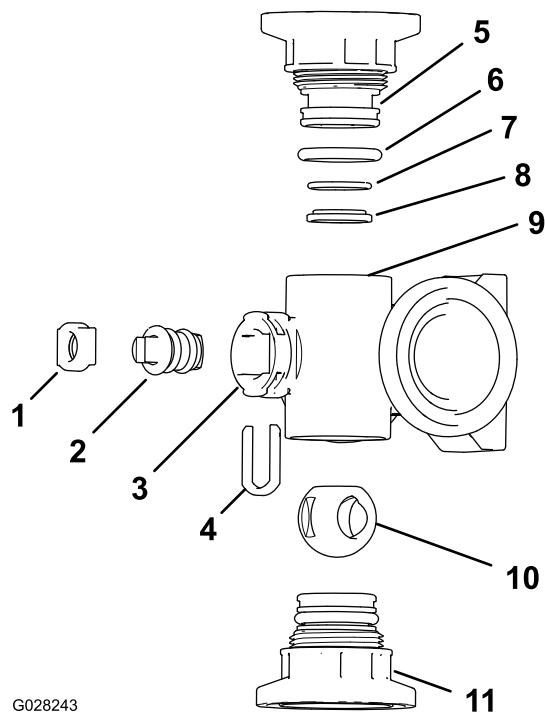
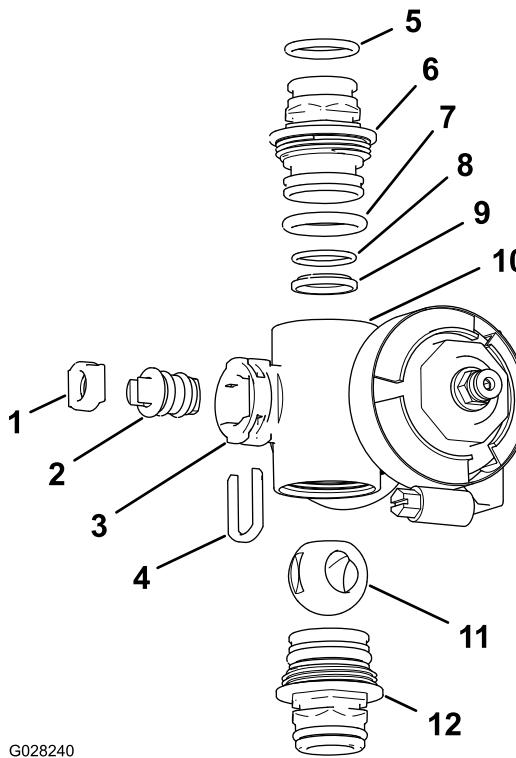

Figure 119
Figure 120
2. Remove the 2 end-cap-fitting assemblies from each end of the manifold body (Figure 119 and Figure 120).
4. Remove the stem retainer from the slots in the stem port in the manifold (Figure 119 and Figure 120).
5. Remove the stem retainer and valve stem seat from the manifold (Figure 119 and Figure 120).
6. Reach into the manifold body and remove the valve-stem assembly (Figure 119 and Figure 120).
1. Check the condition of the outlet fitting O-rings (section valve manifold only), end cap O-rings, back seating O-rings, and ball seat for damage or wear (Figure 119 and Figure 120).
2. Apply silicone grease to the valve stem and insert it into the valve stem seat (Figure 119 and Figure 120).
3. Install the valve stem and seat into the manifold and secure the stem and seat with the stem retainer (Figure 119 and Figure 120).
4. Ensure that the back seating O-ring and the ball seat are aligned and seated into the end-cap fitting (Figure 119 and Figure 120).
5. Install the end-cap fitting assembly onto the manifold body until the flange of the end-cap fitting touches the manifold body (Figure 119 and Figure 120), then turn the end-cap fitting an additional 1/8 to 1/4 turn.